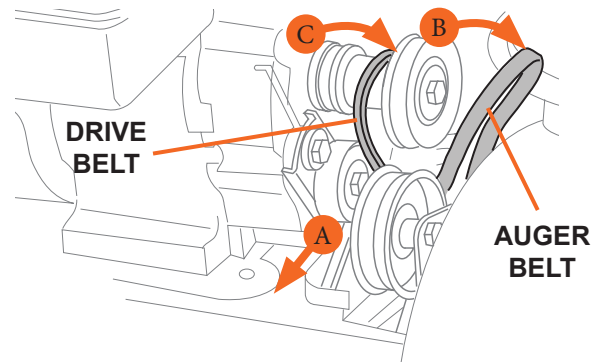

Figure 24
6. See Figure 24 and follow the steps below: